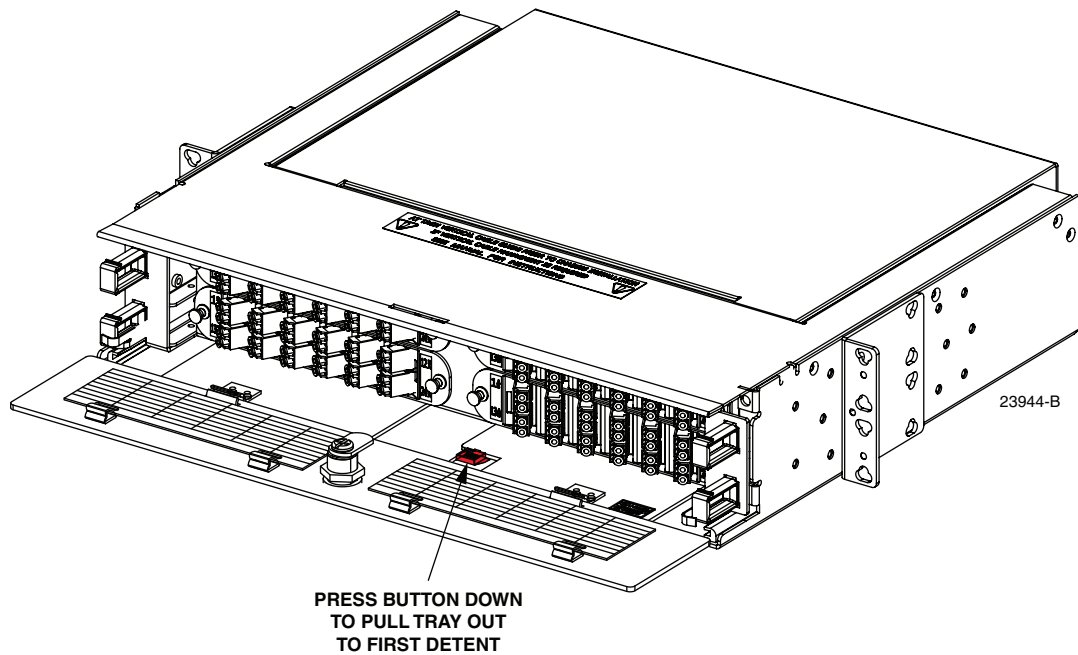

Figure 7. Releasing Closed Drawer to Open It
1. To release a closed drawer, press the release button down, as shown in Figure 7, and slide the drawer out to the first detent.